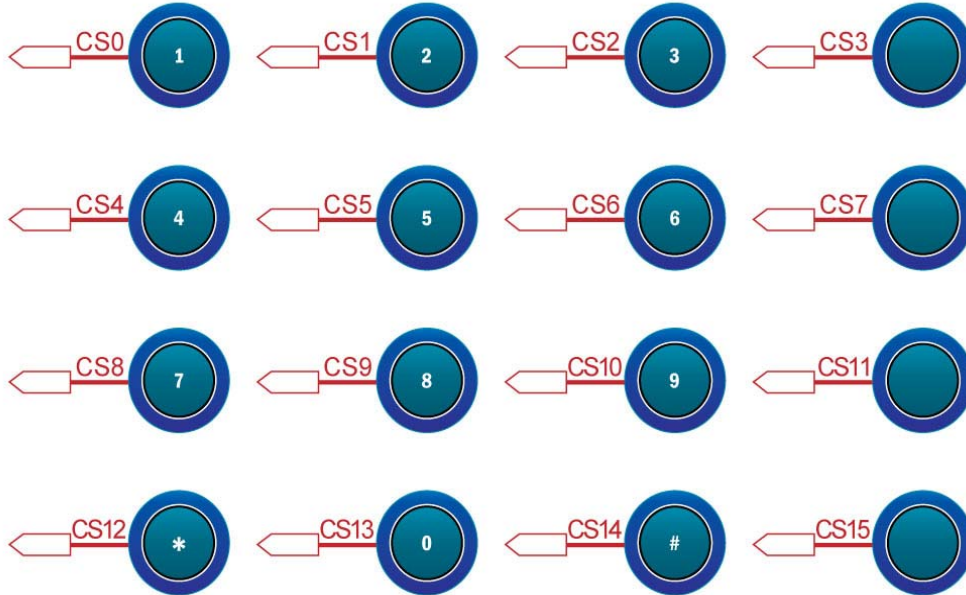

Figure 3-3 CapSense Buttons Layout
4x4 (16) CapSense buttons are connected and laid out in a matrix-type fashion on the CapSense Matrix Keyboard board. The 16 CapSense buttons include 12 standard buttons marked with 0-9, * and # symbols. The remainder 4 buttons are unlabeled. **Figure 3-3** illustrates the CapSense buttons matrix-type layout.